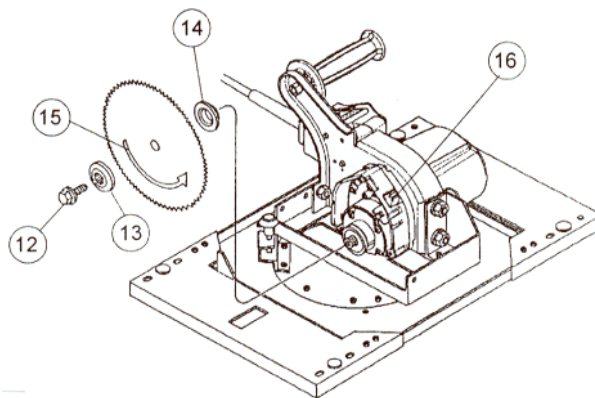

Figure 7: Installing a Saw Blade (H Series Shown)
2. Tighten your rip lock on your carriage. While holding the in the spindle lock (16)(located on the bottom side of your motor) **remove the blade bolt (12)**(Figure 7) from the saw motor spindle by turning it **counterclockwise**. Remove the outer blade flange (13), but leave the inner blade flange (14) on the spindle.